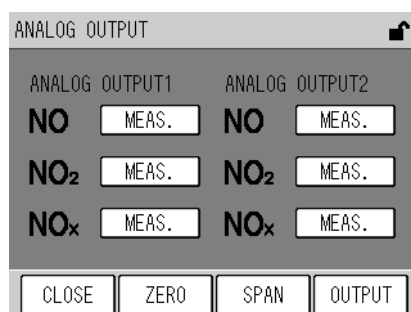

Fig. 57 ANALOG OUTPUT screen
[ANALOG OUTPUT]: Displays the ANALOG OUTPUT screen (Fig. 57 on page 44).
5. Press the [CLOSE] key to return to the ANALOG OUTPUT screen (Fig. 57 on page 44).